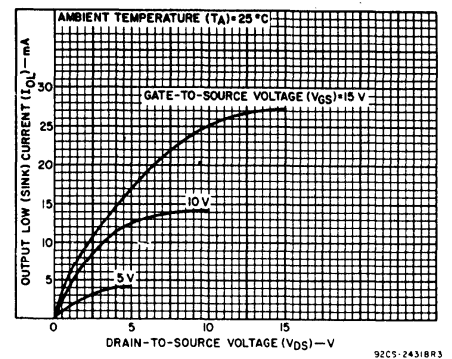

Fig. 4 - Typical output low (sink) current characteristics.
**Cascading** — The CD40105B can be cascaded to form longer registers simply by connecting the DIR to SO and DOR to SI. In the cascaded mode, a MASTER RESET pulse must be applied after the supply voltage is turned on. For words wider than 4 bits, the DIR and the DOR outputs must be gated together with AND gates. Their outputs drive the SI and SO inputs in parallel, if expanding is done in both directions (see Figs. 4 and 5).
**Master Reset** — A high on the MASTER RESET (MR) sets all the control logic marker bits to "0". DOR goes low and DIR goes high. The contents of the data register are not changed, only declared invalid, and will be superseded when the first word is loaded. The shift-in must be low during Master Reset.